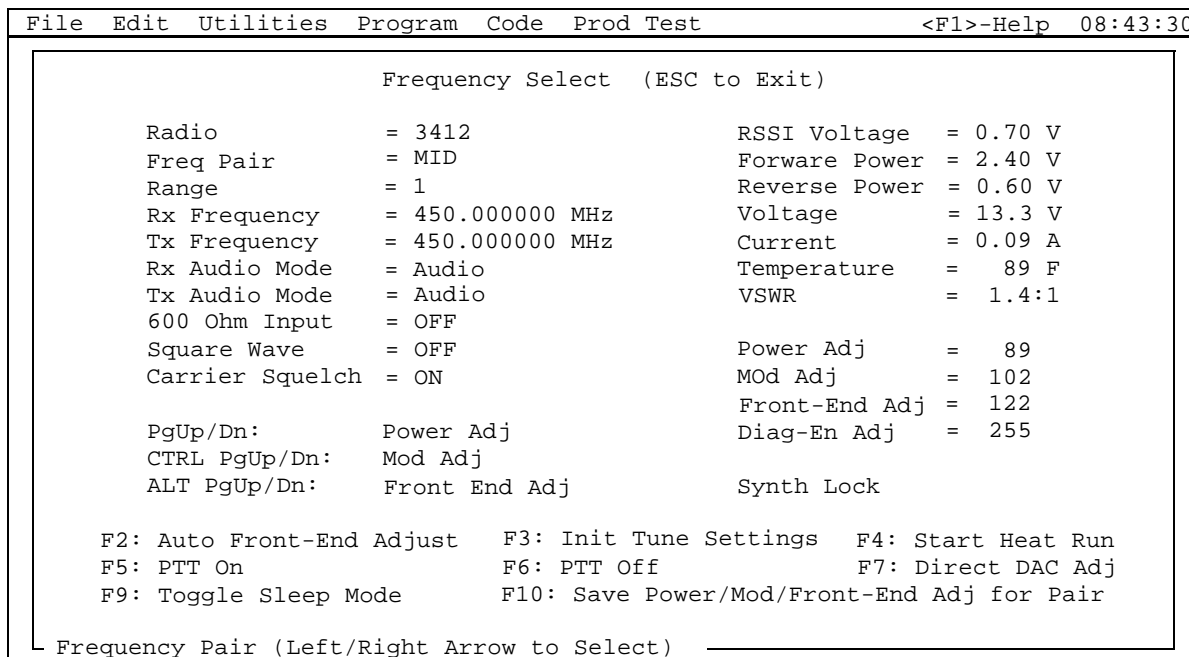

Figure 6-2 PRODUCTION TEST:TEST SELECT
4. Press F5 to key the transmitter (see Figure 6-2).
6. Adjust the DAC value using PgUp/PgDn to set the power out to 5.0W ± 0.3 W. Re-check supply voltage for +13.3V. Adjust voltage and power if necessary (see Figure 6-2).
3. Check to be sure the DAC values are at their initial settings. Press F3 to initialize the Power Adjust, Mod Adjust, and Front-End Adjust if they are not initialized (see Figure 6-2).
5. Adjust the DAC value using CTRL Page Up/Page Down to fine tune the DAC value for the latest square wave (see Figure 6-2).